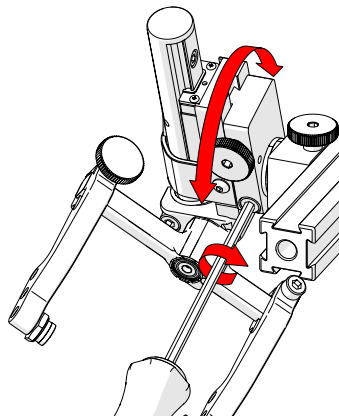

Fig. 103 - Rotate to position
4. Tighten the longitudinal adjustment screw (*Fig. 103*).